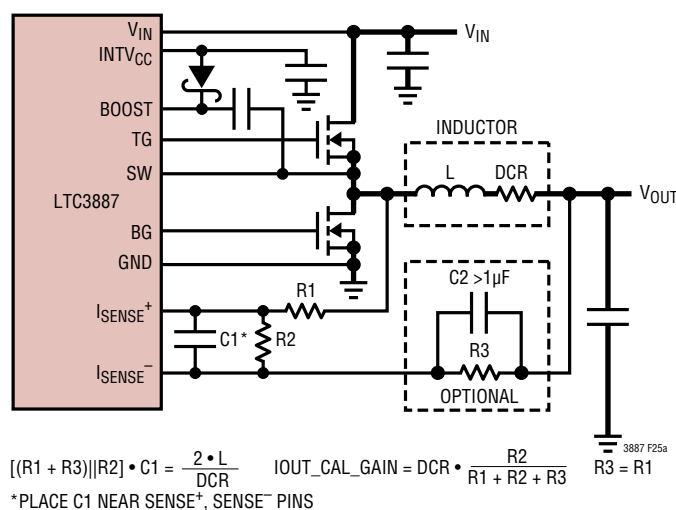

Figure 25a. Inductor DCR Current Sense Circuit
sharing between power stages. If DCR sensing is used (Figure 25a), sense resistor R1 should be placed close to the switching node (SW) to prevent noise from coupling into sensitive small-signal nodes. The capacitor C1 should be placed close to the IC pins. This impedance difference can result in loss of accuracy in the current reading of the ADC. The current reading accuracy can be improved by matching the impedance of the two I_{SENSE} inputs. To accomplish this add a series resistor between V_{OUT} and I_{SENSE}^- equal to R1. A capacitor of 1 μ F or greater should be placed in parallel with this resistor. If the peak voltage is <75mV at room temperature, R2 is not required.
For applications requiring the highest possible efficiency at high load currents, the LTC3887 is capable of sensing the voltage drop across the inductor DCR, as shown in Figure 25a. The DCR of the inductor represents the small amount of DC winding resistance of the copper, which can be less than 1mΩ for today's low value, high current inductors. In a high current application requiring such an inductor, conduction loss through a sense resistor would cost a few points of efficiency compared to DCR sensing.
C1 is usually selected to be in the range of 0.047μF to 4.7μF. This forces $R1||R2$ to be approximately 2k. This resistance minimizes errors caused by the SENSE pin leakage currents. Adding optional elements R3 and C2 shown in Figure 25a will minimize offset errors associated with these leakage currents.